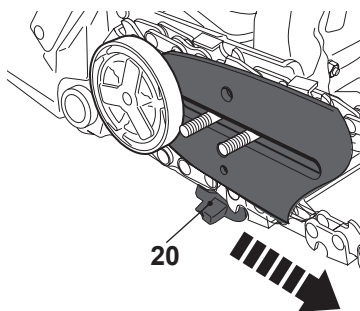

Fig. 11
- > Pull the guide bar (4) carefully towards the right to pre-tighten the saw chain (3) (Fig. 11).